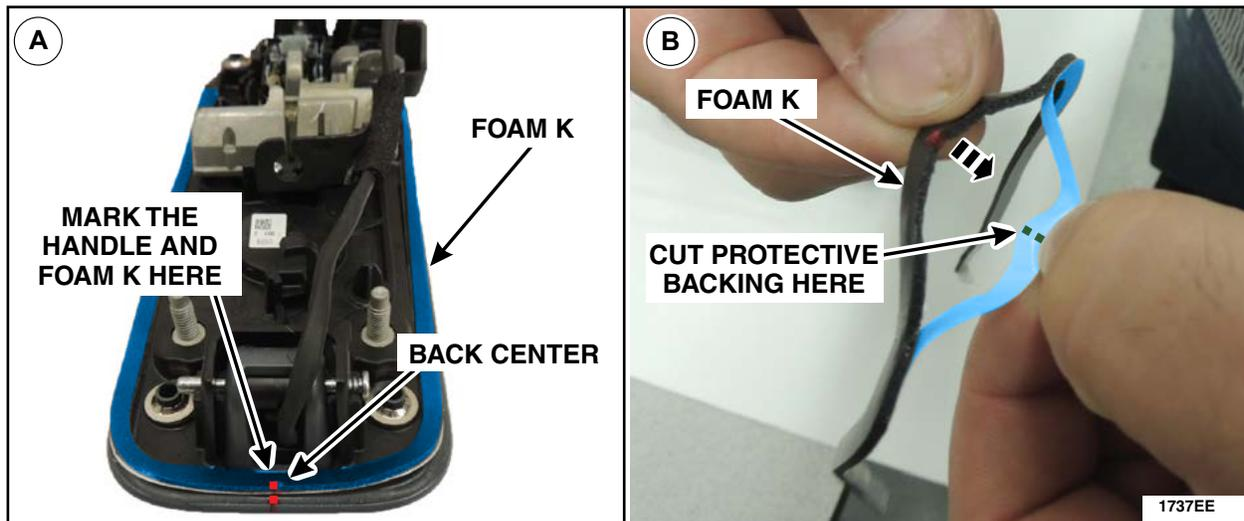

FIGURE 58
- A. Lay out Foam K on the exterior door handle and mark center as shown in Figure 58.
- B. Remove Foam K from the door handle and remove the back center portion of the adhesive backing then cut the protective backing in half. See Figure 58.